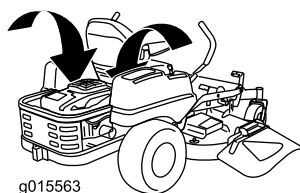
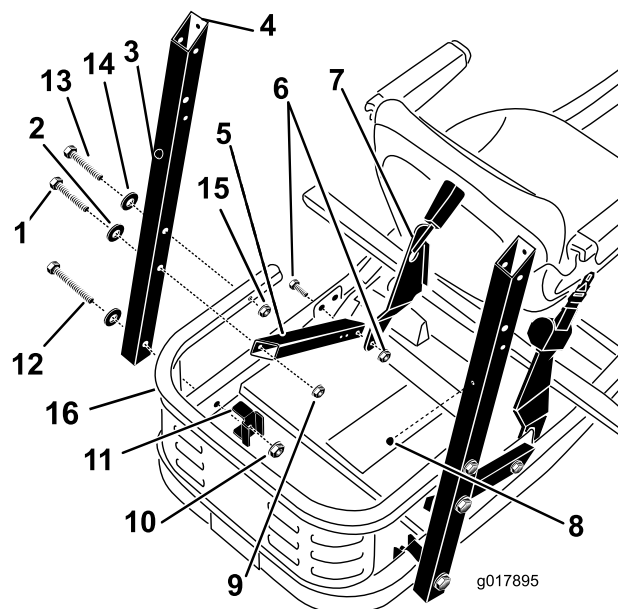
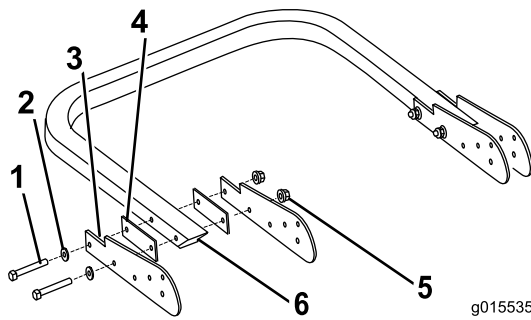

Figure 3
Figure 4
Figure 5
1. Locate the factory installed brace attached to the frame between the engine and the rear wheel (see Figure 3 and Figure 4).
2. Loosen the locknut that secures the brace to the frame. Stop when the brace swings freely (Figure 4).
3. Attach the rollbar support to the frame and the brace to the rollbar support as shown in Figure 4. Leave the bolts loose enough that the parts are free to shift around.
4. Attach the rollbar support to the engine guard as shown in Figure 4.
Assemble the pivot brackets to the rollbar as shown in Figure 5. Leave the bolts loose enough that the parts are free to shift around.
1. Tighten the fasteners in the order specified in the following table. Figure 4 and Figure 5 will help identify the parts.
- If necessary, install both small rubber bumpers. Press the small flange on the back of each into the holes on the back of the rollbar supports (Figure 4).